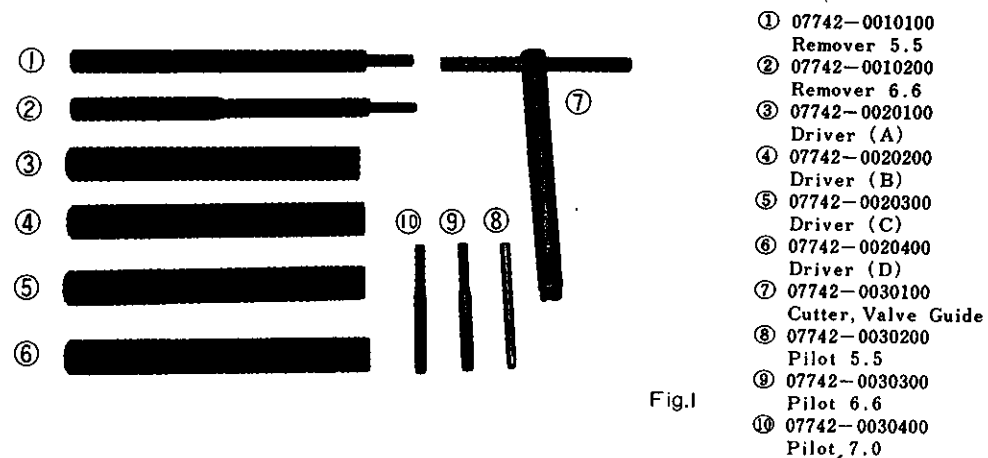
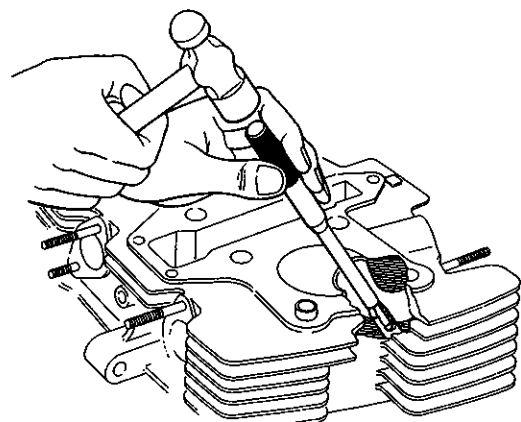
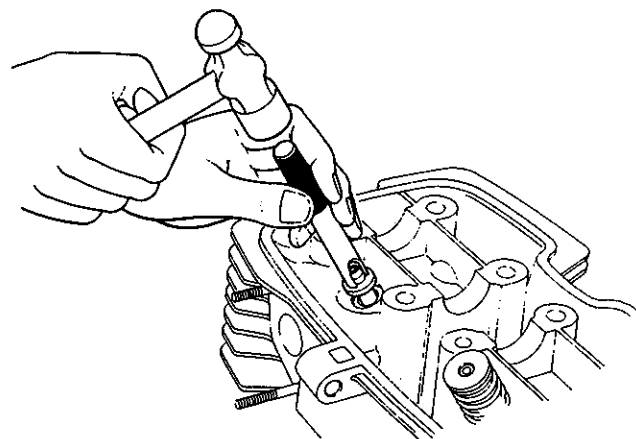

Fig.1
Fig.2
Fig.4
This tool is used driving valve guides in or out and for cutting the ends of the valve guide(Fig.1)
- ① When driving out the valve guide
Use a remover (Fig.1-①,②) matching the inside diameter of the valve guide and drive out the valve guide with a hammer. (Fig.2)
- ② When cutting the valve guide
Fit pilot matching the inside diameter of the valve guide (Fig.1-⑧~⑩) to the cutter holder (Fig.1-⑦).
- ③ When driving in the valve guide
Fit driver (Fig.1-③~⑥) matching the outside diameter of the valve guide as shown in Fig.4 and drive in with a hammer. However, there are some types of vehicles in which the remover (Fig.1-①,②) is also used for driving in the valve guide.